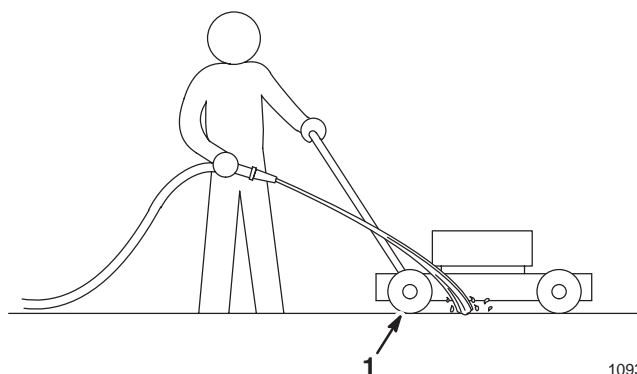

Figure 28
3. Hold the running garden hose at handle level and direct water to flow on ground just in front of right rear tire (Fig. 28). The rotating blade will draw water under the housing and wash out clippings. Let the water run for a few minutes or until you no longer see clippings being washed out from under housing.